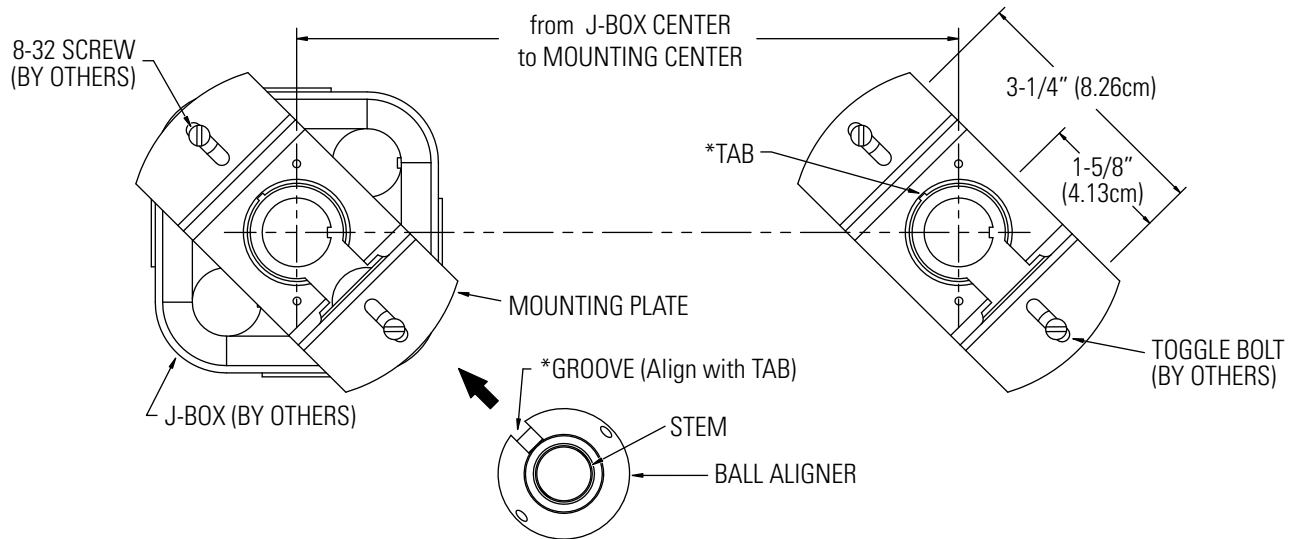

Figure 1
- Mark off mounting distances starting from J-BOX CENTER to MOUNTING CENTERS. (Fig. 1)
- IMPORTANT! Orientation of MOUNTING PLATE is very critical. (Fig. 1)